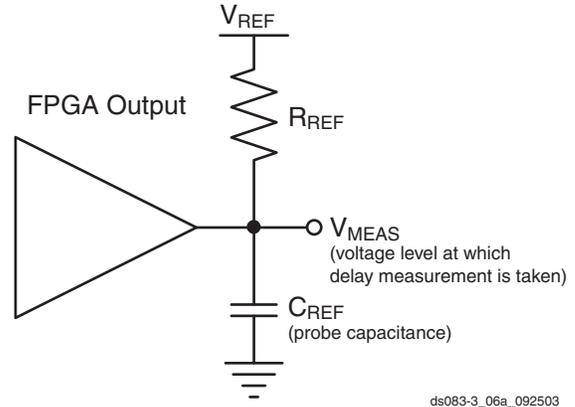

Figure 6: Generalized Test Setup
5. Note that this is an input voltage reference that bears no relation to the V_{REF} / V_{MEAS} parameters found in IBIS models and/or noted in Figure 6.
Output delays are measured using a Tektronix P6245 TDS500/600 probe (< 1 pF) across approximately 4" of FR4 microstrip trace. Standard termination was used for all testing. (See Virtex-II Pro Platform FPGA User Guide for details.) The propagation delay of the 4" trace is characterized separately and subtracted from the final measurement, and is therefore not included in the generalized test setup shown in **Figure 6**.